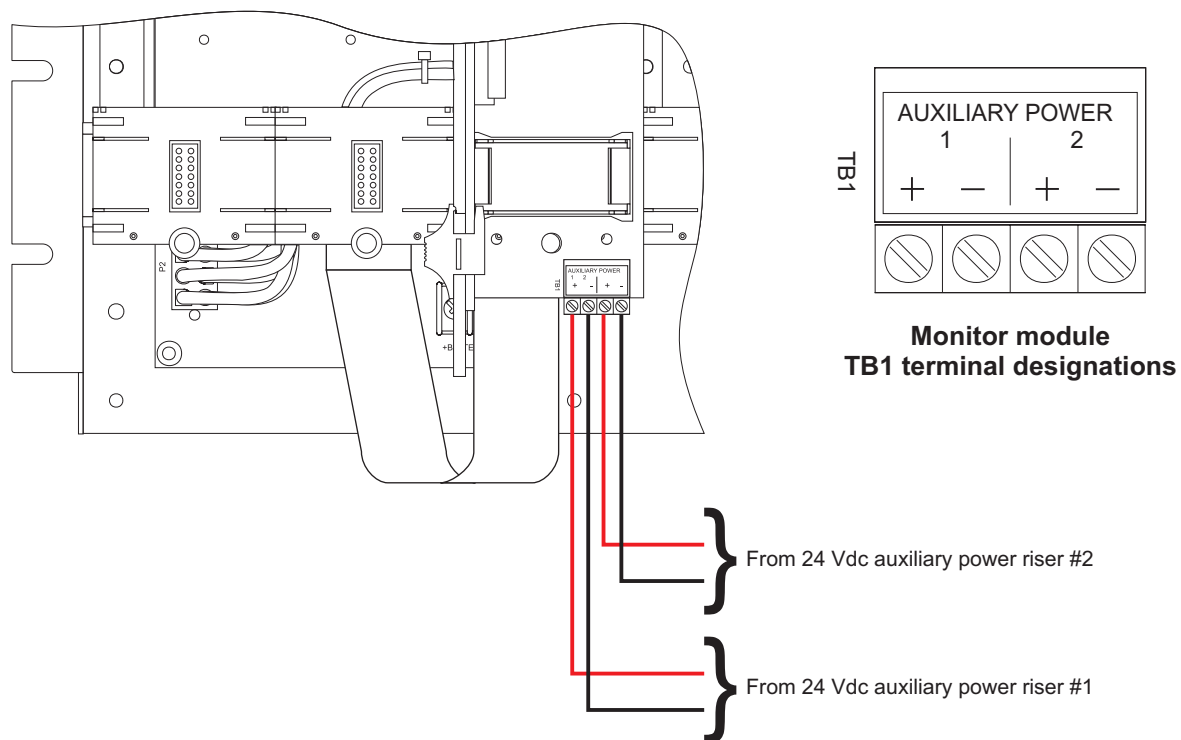

Figure-3: 24 Vdc auxiliary power riser wire connections
4. Connect the 24 Vdc auxiliary power riser conductors to TB1 on the power supply monitor module. Refer to Figure-3 on page 4.